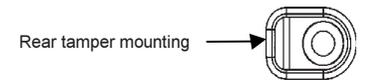

Figure 3: Rear Tamper Release
9. If using the rear tamper switch, insert a screw into the rear tamper mounting hole located in the center of the back cover – see Figure 3. When the detector is removed from the wall, the screw causes the tamper release to break away from the back cover and the rear tamper switch is released.